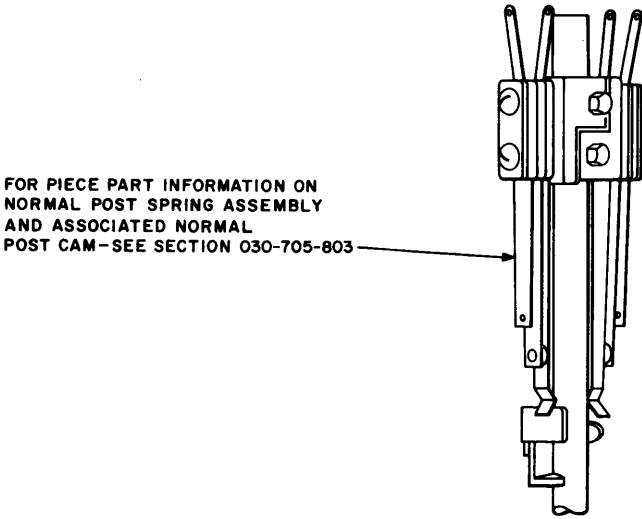

Fig. 10—Normal Post Spring Assembly Operated by
4. For 197AF, 197AG, 197AH, 197AJ, 197BB, 197BN, 197BS, and D-91385 switches having normal post springs per Fig. 10.
5. For 197P, 197R, 197AD, 197AE, 197AY, 197BD, 197BP, and 197BR switches having normal post springs per Fig. 10.